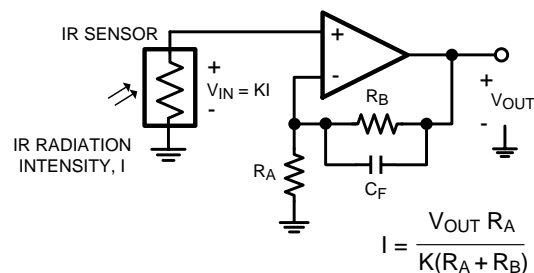

Figure 59. IR Radiation Sensor
The low input bias current and low input referred noise of the LMV796 and LMV797 make them ideal for sensor interfaces. These circuits are required to sense voltages of the order of a few  $\mu V$  and currents amounting to less than a nA hence, the op amp needs to have low voltage noise and low input bias current. Typical applications include infra-red (IR) thermometry, thermocouple amplifiers and pH electrode buffers. Figure 59 is an example of a typical circuit used for measuring IR radiation intensity, often used for estimating the temperature of an object from a distance. The IR sensor generates a voltage proportional to  $I$ , which is the intensity of the IR radiation falling on it. As shown in Figure 59,  $K$  is the constant of proportionality relating the voltage across the IR sensor ( $V_{IN}$ ) to the radiation intensity,  $I$ . The resistances  $R_A$  and  $R_B$  are selected to provide a high gain to amplify this voltage, while  $C_F$  is added to filter out the high frequency noise.